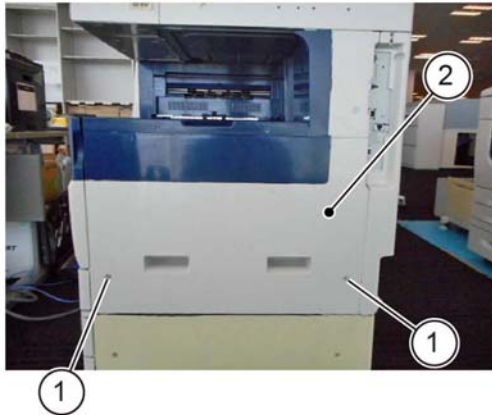

Figure 1 Right cover removal
5. Remove the right cover, Figure 1:
- a. Remove two screws (1).
- b. Remove the right cover (2).